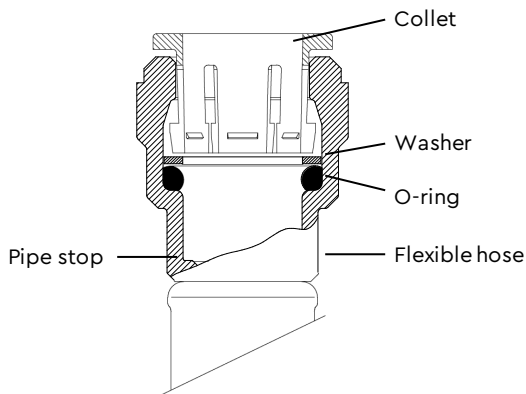

Figure 10
3. Check in the mouth of the fitting that the 'O'-ring, nylon washer and collet are in position as shown in Figure 10.